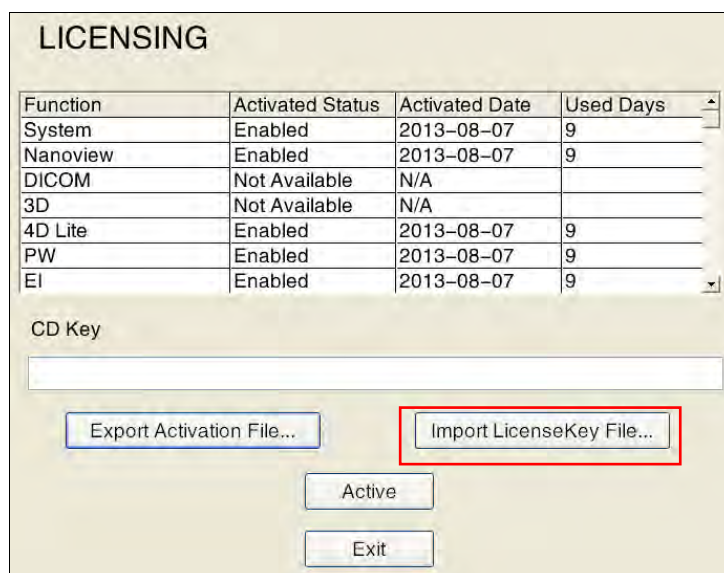

Figure 224: licensing screen
2. Select **Licensing** and then **Import LicenceKey file...** to activate the DICOM licence obtained from Zimmer together with the licence key file (for detailed instructions on activating the DICOM function, see Section 5.2.1 in the Operating Manual). The licensing screen is shown in Figure 224.